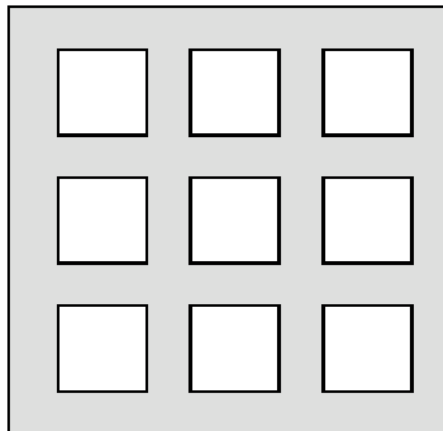

Figure 17. Solder Paste Application on Exposed Pad
3. For the PCB thermal pad, solder paste should be printed on the PCB by designing a stencil with an array of smaller openings that sum to 50% of the QFN exposed pad area. Solder paste should be applied through an array of squares (or circles) as shown in Figure 17.